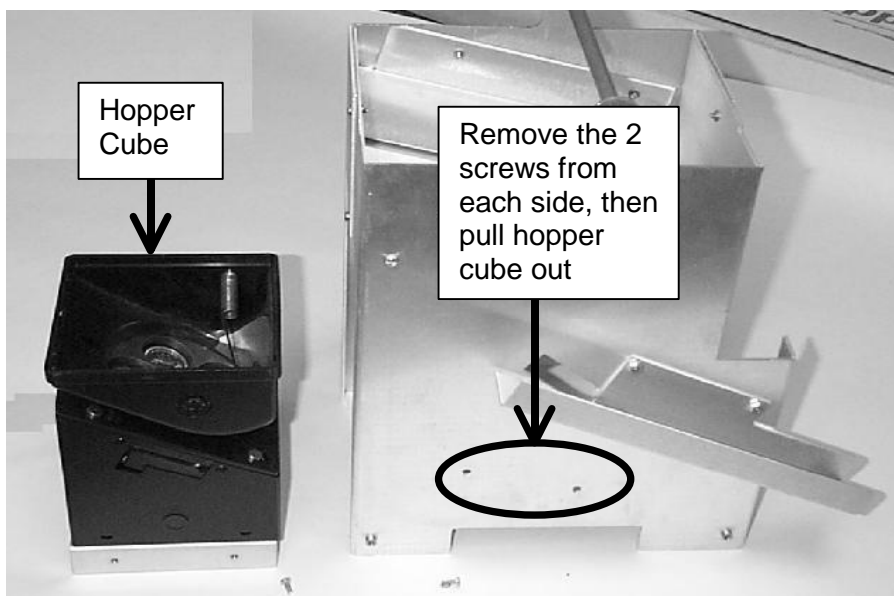

Figure 15. Hopper View - Side Screw and Internal Hopper - Cube
4. Once you have removed the hopper from the Wash Select II case, you can remove the two screws that are holding the black, plastic hopper cube. (See Figure 15, below.)